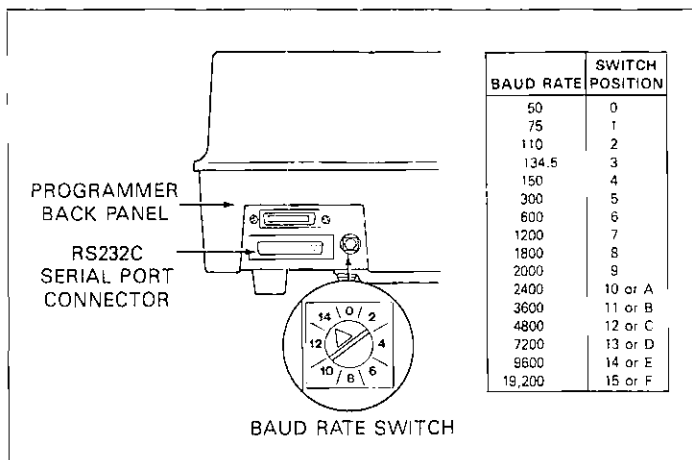

Figure 2-4. Selecting the Baud Rate on the Model 29
- Set the programmer protocol to 9600 baud, 8 bits, no parity. Figures 2-4 and 2-5 show the switch settings for the Model 29 programmer. Consult your programmer manual or Appendix B.5 to achieve the correct setting for your programmer.